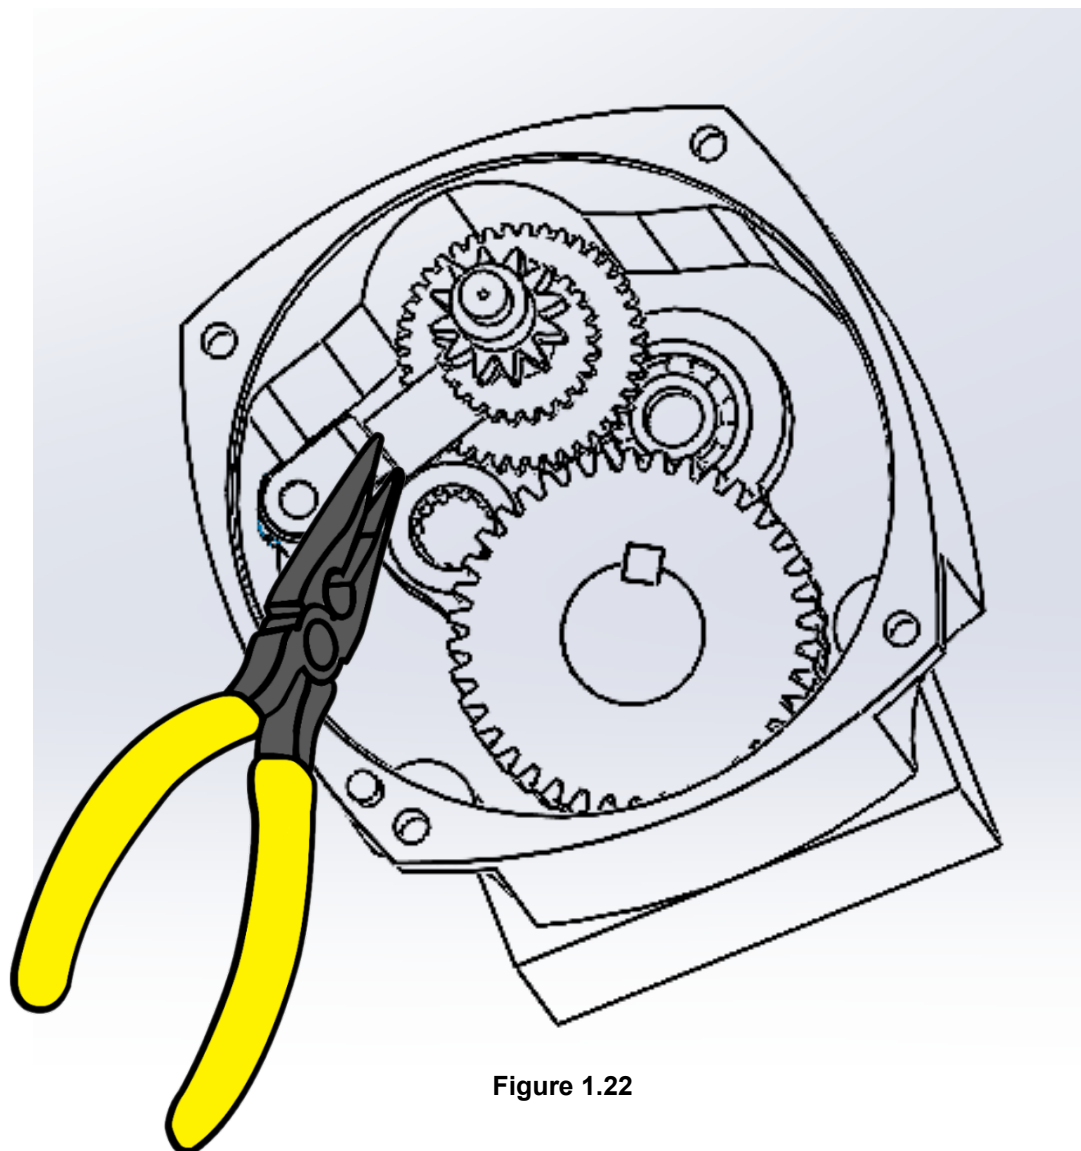

Figure 1.22
- 1.7.5 Turn clockwise to extract the inner part of the lever with the help of pliers as in figure 1.22;